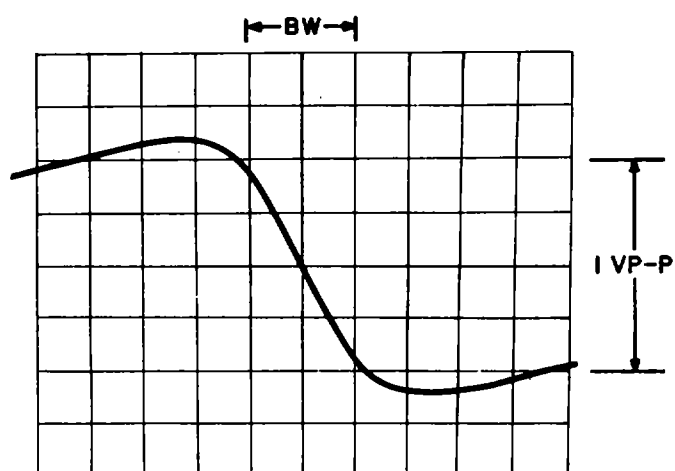

Figure 4-26. FM Demodulator "S" Curve
4. Adjust the oscilloscope and sweep generator controls to display an "S" curve as illustrated in **Figure 4-26**.